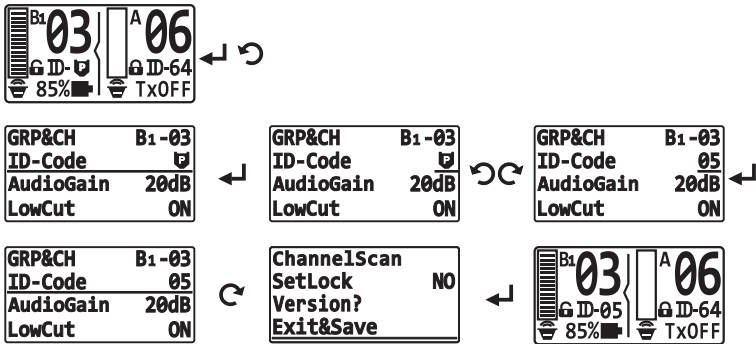

Fig. 20
- (A) Press knob once at Home Screen, turn and locate GRP & CH status bar. Press once to activate parameter setting.
- (B) Turn right or left to one of the programmed parameter value.
- (C) Press once to accept change. To save changes, turn and locate Exit & Save status bar, press once to save and return to home screen.
- (D) Press ACT sync button to synchronize the newly changed with transmitter once GRP & CH setup is done.
- (E) Two programmed groups of channels are available for selection. Group A and Group B (B1+B2) have 12 and 24 channels, respectively. 64 IDs and a specific ID is allowed to be set for each channel to prevent the same channel interfered at the same space. We recommend using channels in Group A for challenging RF & interference environments due to its higher anti-interference ability. We recommend using channels in Group B for more interference-free channels operation or optimal audio latency (cleaner RF, less interference environments). However, do not mix Group A channels and Group B channels.
4. Setting ID-Code, see Fig. 20: